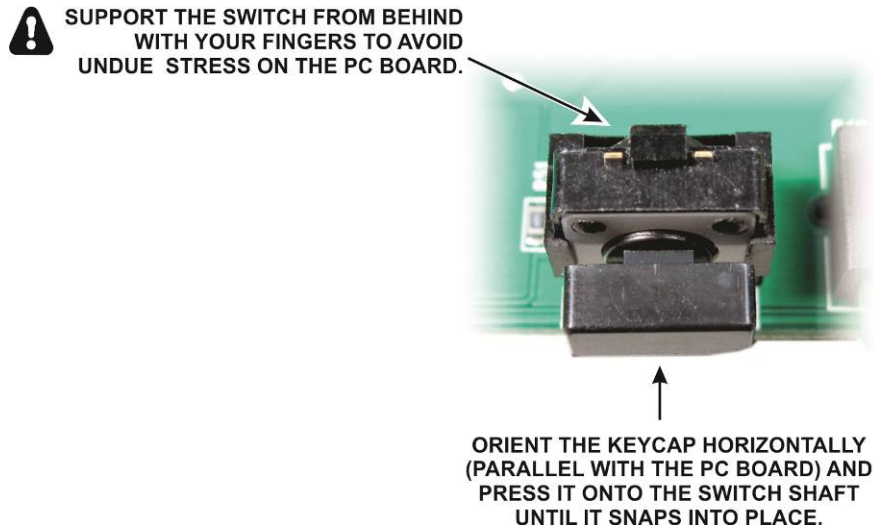

Figure 33. Installing Key Caps on the Switches.
□ On the edge of the pc board that has the rows of LEDs, install key caps on the three switches (S1, S2 and S3) as shown in Figure 33. Be sure you orient the key caps horizontally (parallel with the pc board).